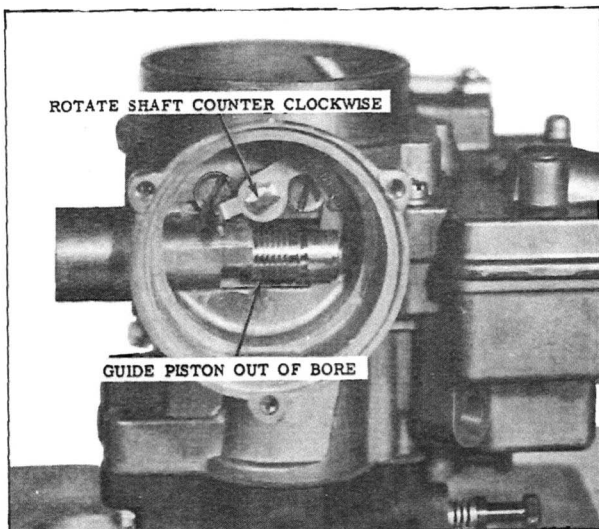

Fig. 21 Choke Piston Removal (Center Carburetor)
13. (Center Carburetor Only). Rotate choke shaft counter-clockwise to free choke piston from housing, then pull piston and choke shaft from air horn. (See Fig. 21)